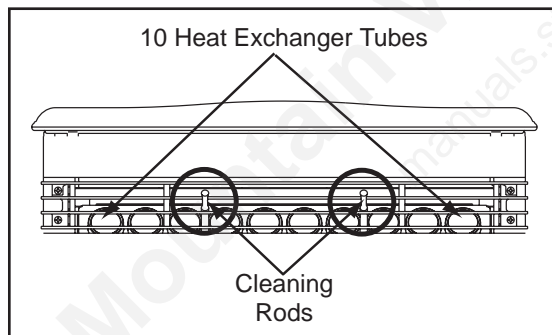

Figure 32.1
- Locate the 2 exposed rods directly underneath the heat exchanger tubes. **Figure 32.1.**
- b. Open the clean out cover. **See Figure 32.1.**